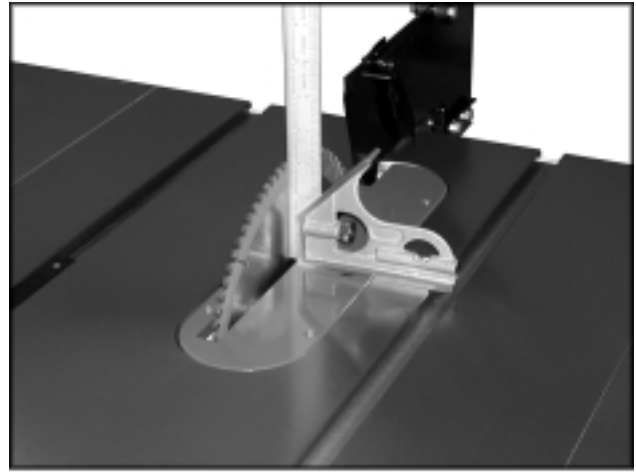

Fig. 15
4. Place a square on the table and check to see that the blade is at a 90° angle to the table, Figure 15. Make sure square is not touching a blade tooth.